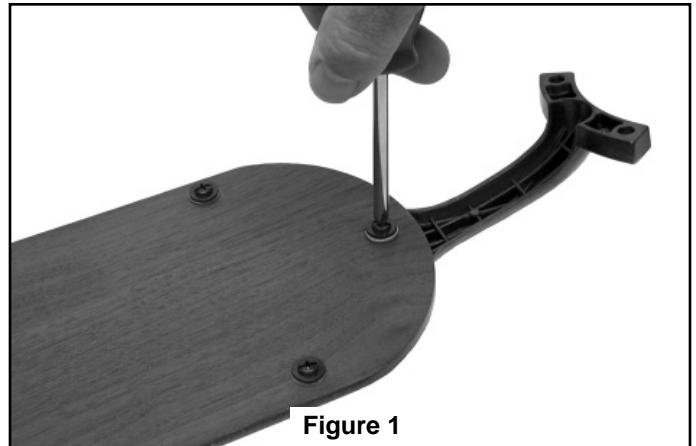

Figure 1
2. Using the 3/16" drill bit, drill pilot holes into the plywood base or supporting member. Mount the Fan/Pulley Assembly on the ceiling with 3 lag bolts (5/16" x 3") and flat washers (Figure 1). If you are installing light kits or fitters to the fan pulley unit, do not completely tighten lag bolts until wiring is complete.
1. Wrap the belting around the two pulleys that will be connected and overlap the belting as shown. Use the spring clamps provided to hold the belting in place temporarily. With the clamps remaining in the same place, grasp both ends of the belting and pull tight. The clamps should hold the belting together after releasing the belt. (Figure 1)
1. Mount the wooden blades on the blade holder with three screws and three fiber washers. (Figure 1)